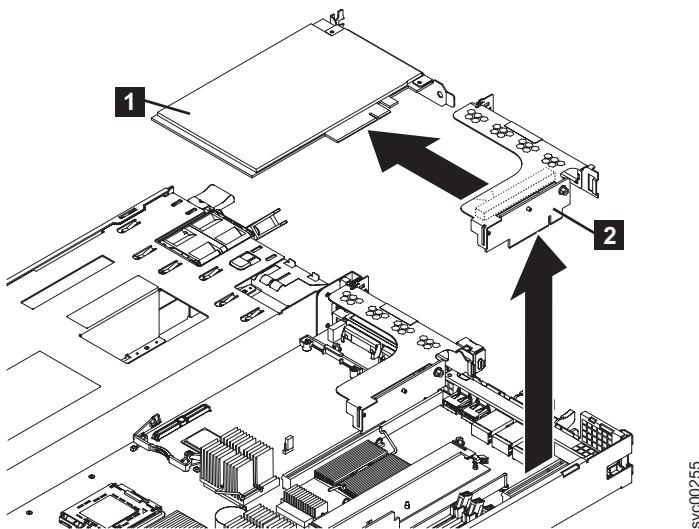

Figure 175. Removing the riser-card assembly from the SAN Volume Controller 2145-8G4
6. Grasp the riser-card assembly ( **2** in Figure 175) at the rear edge and lift to remove the riser-card assembly.